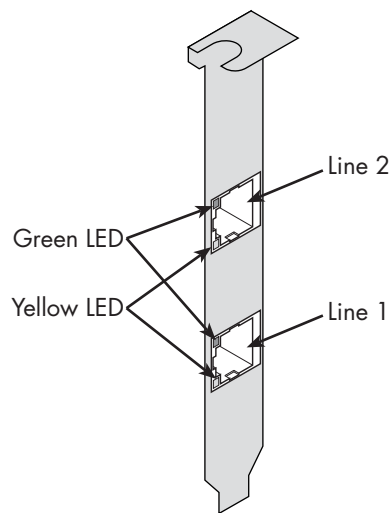

Figure 5. PE1 & PE2 Connector Locations
The position of the PRI connectors is shown in figure 5.
- Connect the PRI line(s) to the adapter. If the adapter is a RAS PE1, only Line 1 (see figure 5 on page 31) is active. If the adapter is a RAS PE2, two PRI lines are supported and both connectors may be used.